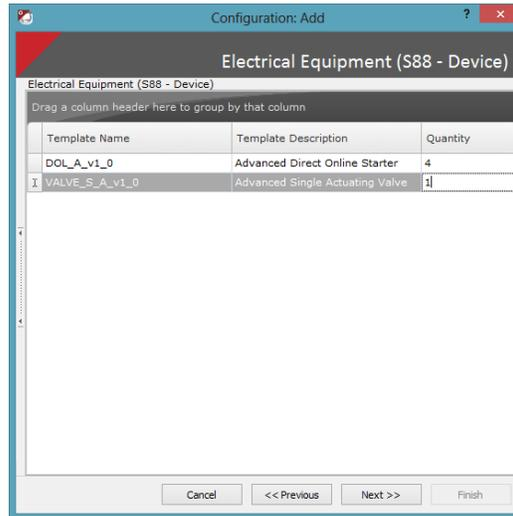

Figure 15 Electrical Equipment
9. Add the Electrical Equipment (S88 Device). See Figure 15 below.